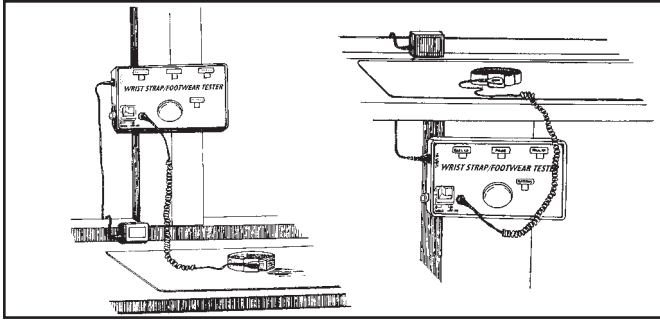

Figure 3. Stationary installation of the Combo Tester
1. Select location for mounting tester. Install three #6 or #8 screws spaced as illustrated in figure 3, into a wall or other vertical surface. Make sure that the screw heads do not project out more than 6.35 mm from mounting surface. The template on page four is actual size.